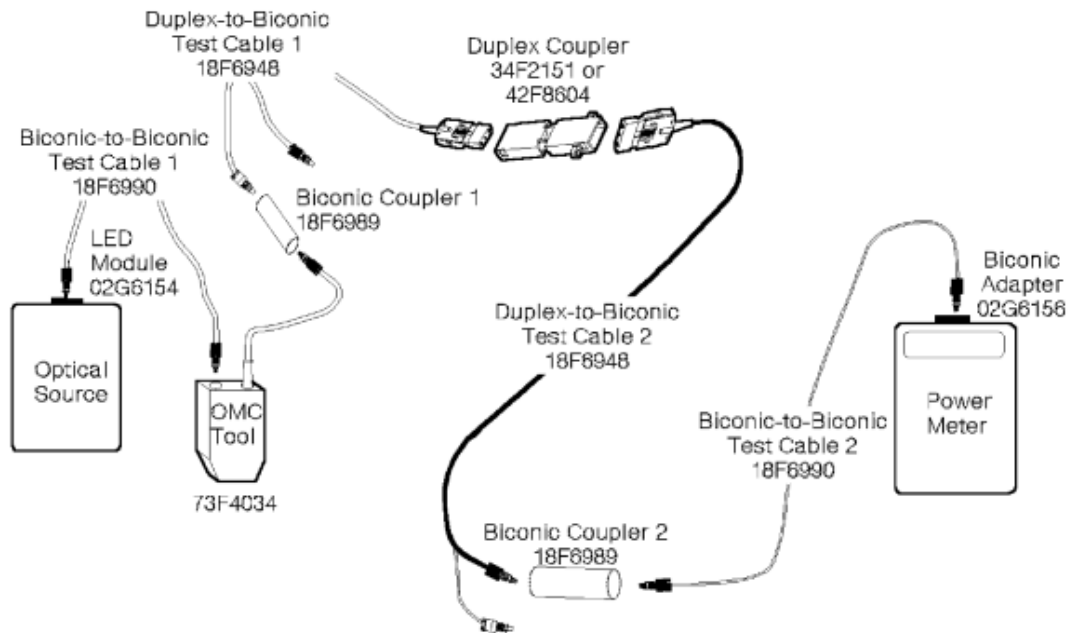

Figure 54. Obtaining **P2** for a multi-mode link
2. Make sure all connectors are clean; then assemble the components (see Figure 54 on page 47).